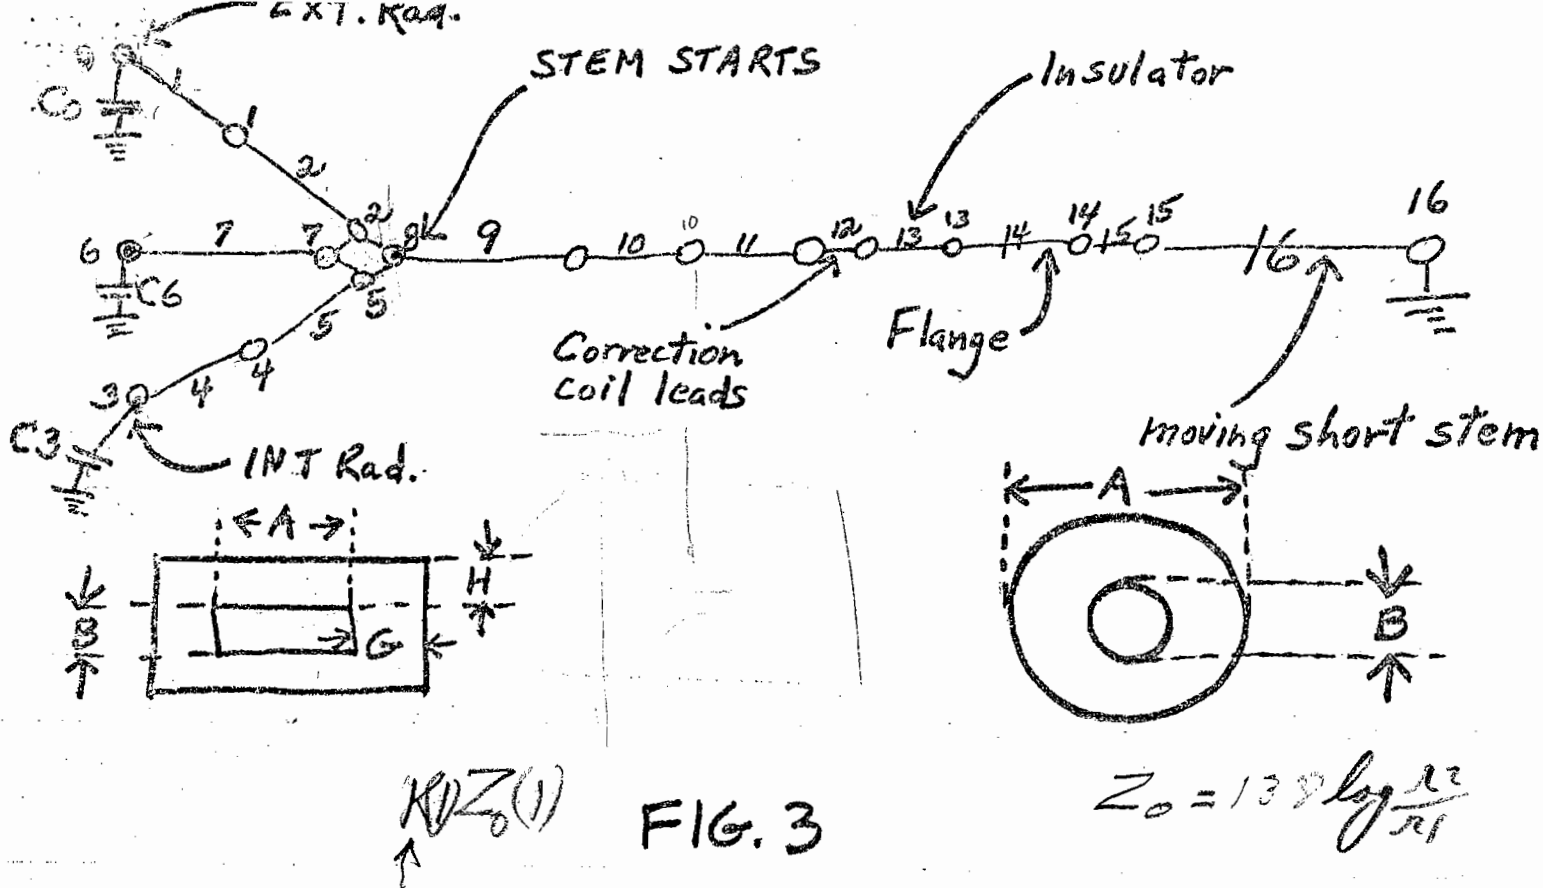

FIG. 3
Now I wish to document what dimensions were used in the calculations, and say a little about other things. Of course the computer program and "run" does this, but, I know people don't want to look at another's program. So in Fig. 3 and Table II, I endeavor to show this documentation and I hope any interested reader will understand it.
### Explanation of Fig. 3 and Table II.
N stands for either a point where a voltage and current can be specified, or for a length of transmission line. In Fig. 3, the schematic shows three transmission lines leading from the top of the dee stem (I am considering the lower stem and half dee). This is point N=8. In Table II, as in the program, if A(N)=0 then N is a point!, else it is a line. The insulator is in line 13 and the moving short in line 16.
C(N) is the lumped capacity between the dee and dummy dee. In order to get the fit of Fig. 1, I had to multiply my calculated values by .8. As a check to see that you understand Fig. 3 and Table II, note that exactly 32 inches below the M/P the stem changes from 4.125 inches OD to 7.25 inches OD, leaving only .75 inches between the inner and outer conductors for length N(11).